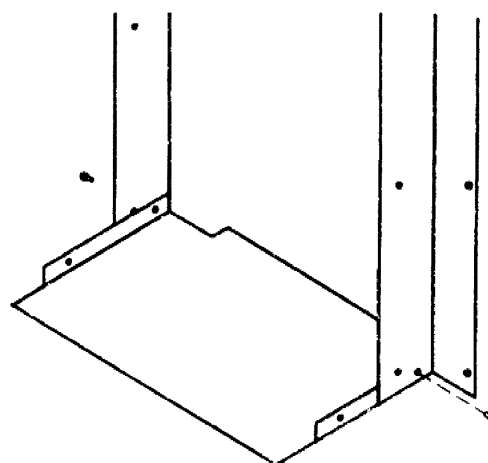

Figure 9. Floor panel fitting
6. Fit the floor panel to the rear spacer unit with two self tapping screws. See figure 9